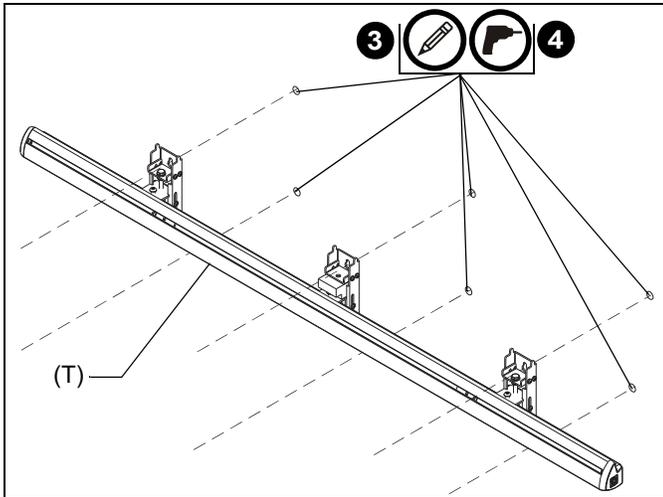

Figure 7
3. Using the wall assembly (T), mark the wall on each stud above existing chalkboard/whiteboard through mounting holes in each bracket. (See Figure 7)